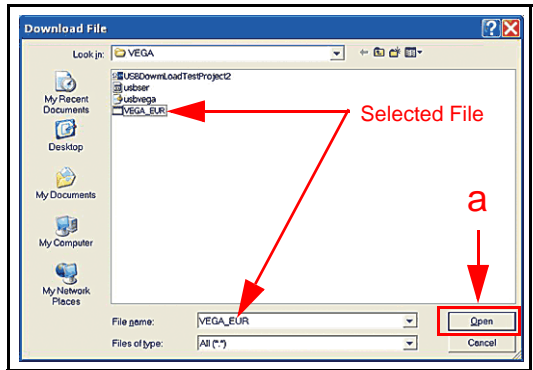

Figure 9 UBA Downloader File Select Screen
7. Mouse-click on the "Open" Screen Button (See Figure 9 a) to launch the selected file.